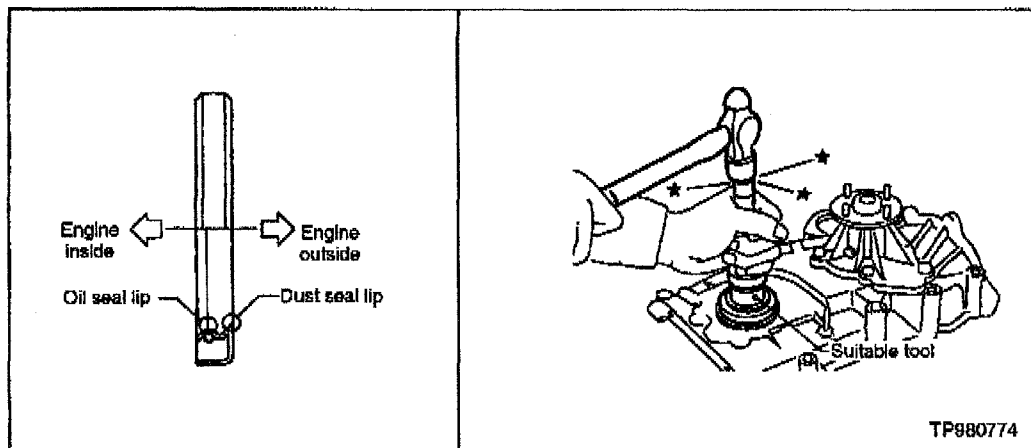

Figure 4
- b. Install new crankshaft seal in front cover (see Figure 4).